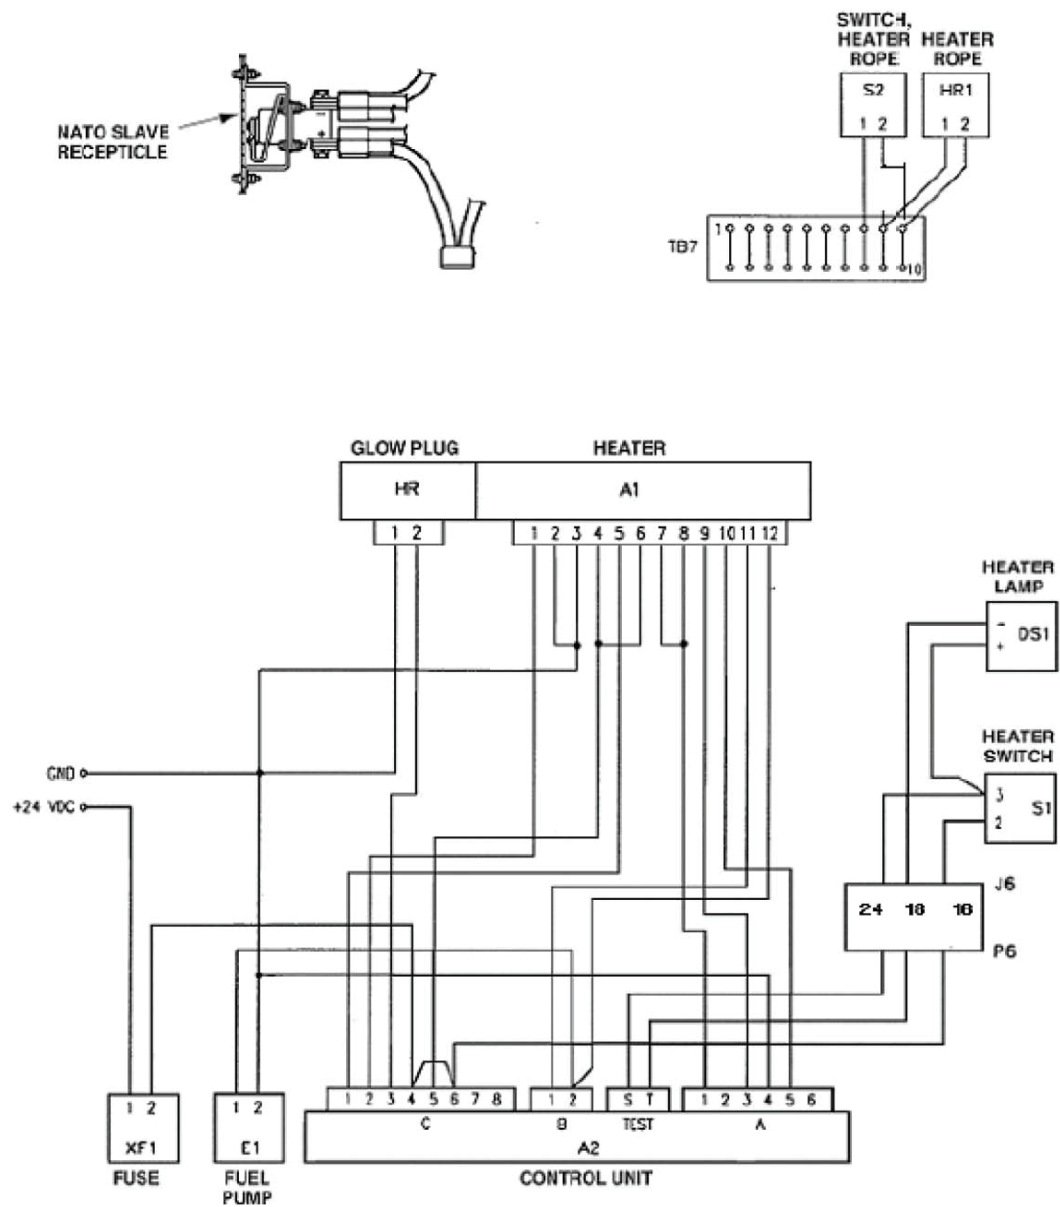

Figure 5. Wiring Harness Removal.
5. Remove electrical leads from J6-16, 18, and 24 (see Figure 5).
11. Remove wiring harness from generator set per Figure 5. Reinsert pins 16 and 24 into P6 and reinstall wire 172D to P6-18.